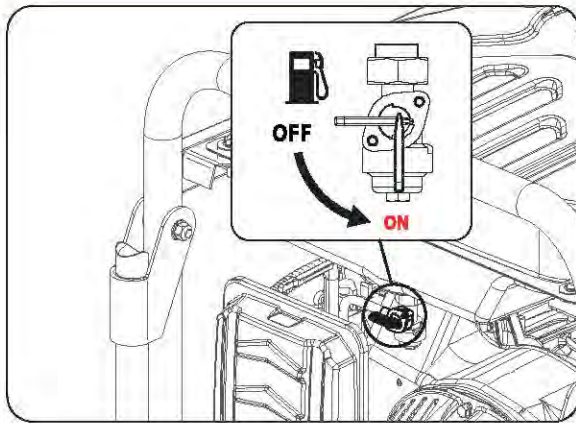

Fig 10
- Turn fuel valve to the "ON" position. (See fig 10)